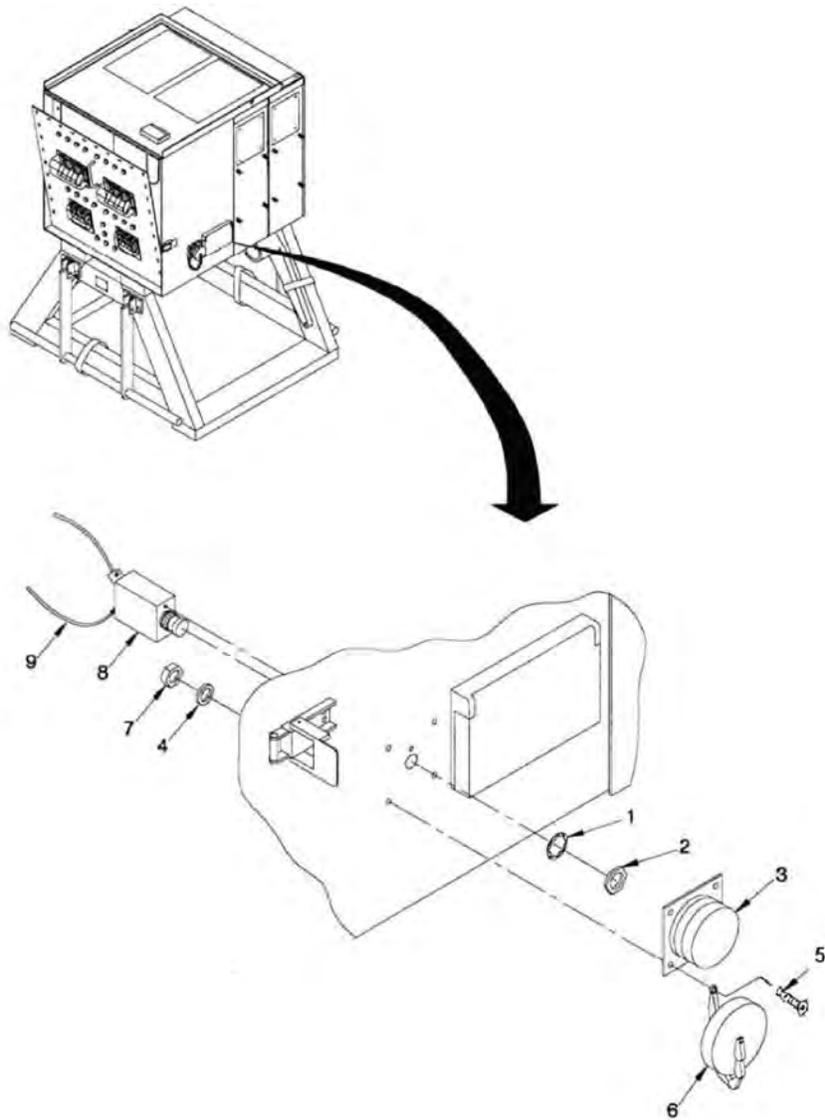

Figure 1. Circuit Breaker CB5 and CB6 (PP-8440/ASM Only).
6. Position circuit breaker (Figure 1, Item 8) through inside of box. Secure circuit breaker (Figure 1, Item 8) to side panel by installing locking star washer (Figure 1, Item 1) and nut (Figure 1, Item 2).
7. Connect two wires (Figure 1, Item 9) to rear circuit breaker (Figure 1, Item 8) and secure wires. Remove tags from wires.
8. Install circuit breaker weather cover (Figure 1, Item 3) by installing four screws (Figure 1, Item 5), four flat washers (Figure 1, Item 4) and four locknuts (Figure 1, Item 7).
9. Secure protective cap (Figure 1, Item 6) on cover by turning clockwise.